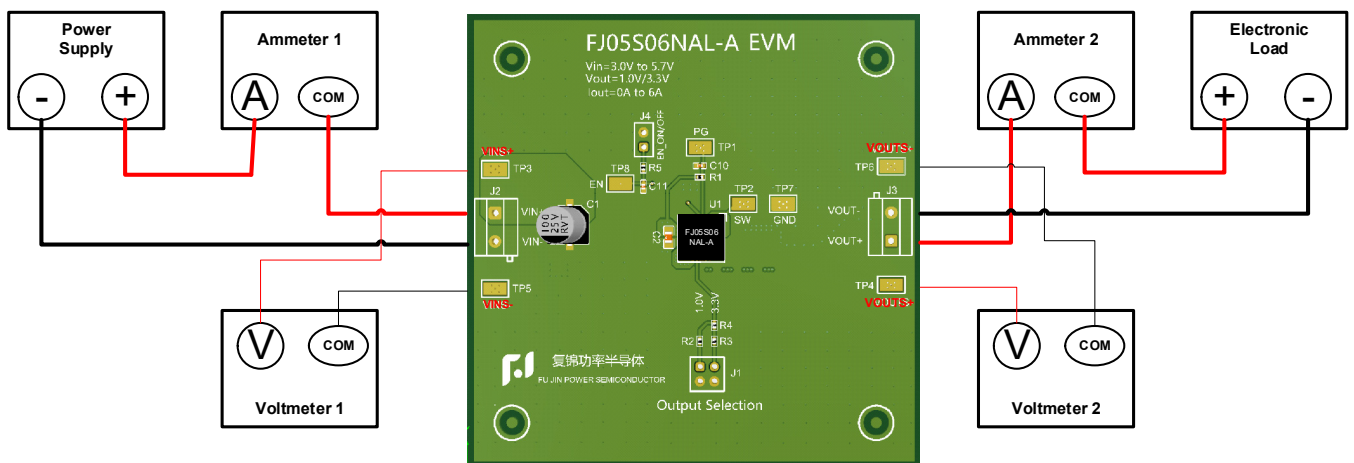

Figure 2-1 EVM test connection
Referencing the EVM connections described in Table 2-1, use the recommended test setup in Figure 2-1 to evaluate the FJ05S06NAL-A. Working at an ESD-protected workstation, make sure that any wrist straps, bootstraps, or mats are connected and referencing the user to earth ground before power is applied to the EVM.
- Prior to connecting the DC input source, set the current limit of the input supply to 0.1A maximum. Ensure the input source is initially set to 0 V and connected to the VIN+ and VIN– connection points as shown in Figure 2-1.
- Connect an electronic load to the VOUT+ and VOUT– connections as shown in Figure 2-1. Set the load to constant-resistance mode or constant-current mode at 0 A before applying input voltage.